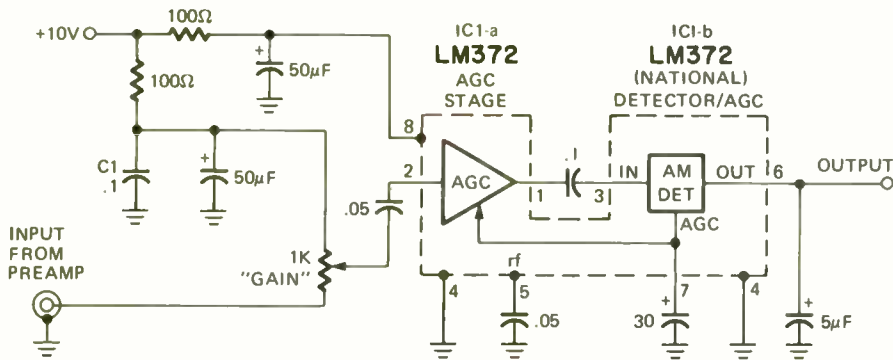

FIG. 5—A SIMPLE WWVB RECEIVER can be built around a National LM372 IC. Just follow this basic schematic.
A National Semiconductors LM372 makes a dandy receiver. The IC has two sections—an initial agc stage which you can capacitor couple to a high-gain stage and a detector. You should get several tenths of a volt of detected output signal, and you can monitor the output with a vom. Be sure to have data sheets on this and all the other transistors and IC's on hand when you are working with them. Also, if you attempt preamp tuning with the LM372 attached, don't forget to defeat the agc or you won't see your tuning peak. If you can get reliable results with this simple system, all you have to do is add a suitable comparator on the output to get 1's and 0's and then go straight to your decoder. The simplified receiver is shown in Fig. 5.
1. If you do your filtering *after* detection, you will only improve the signal-to-noise ratio by $\sqrt{100}$ or a factor of 10. This is how the simple receiver of Fig. 5 does the job.
We already went route 1 with the simple receiver of Fig. 5. For 2, all we need is a nice 6-Hz wide, temperature-stable, accurate 60,000 hertz filter. Lots of luck. We tried a bunch of very expensive ones, including quartz resonators, magnetostrictive stacks and ultrasonic filters. All of these worked but were too expensive. You might try several preamp circuits cascaded; this will reduce the signal bandwidth somewhat but probably won't be cost effective and could cause oscillation and shielding problems. 60-kHz crystals have too *high* a Q, even if you let air into the can to damp them, although a pair of crystals properly stagger tuned probably would work. Again, it's not cost effective.